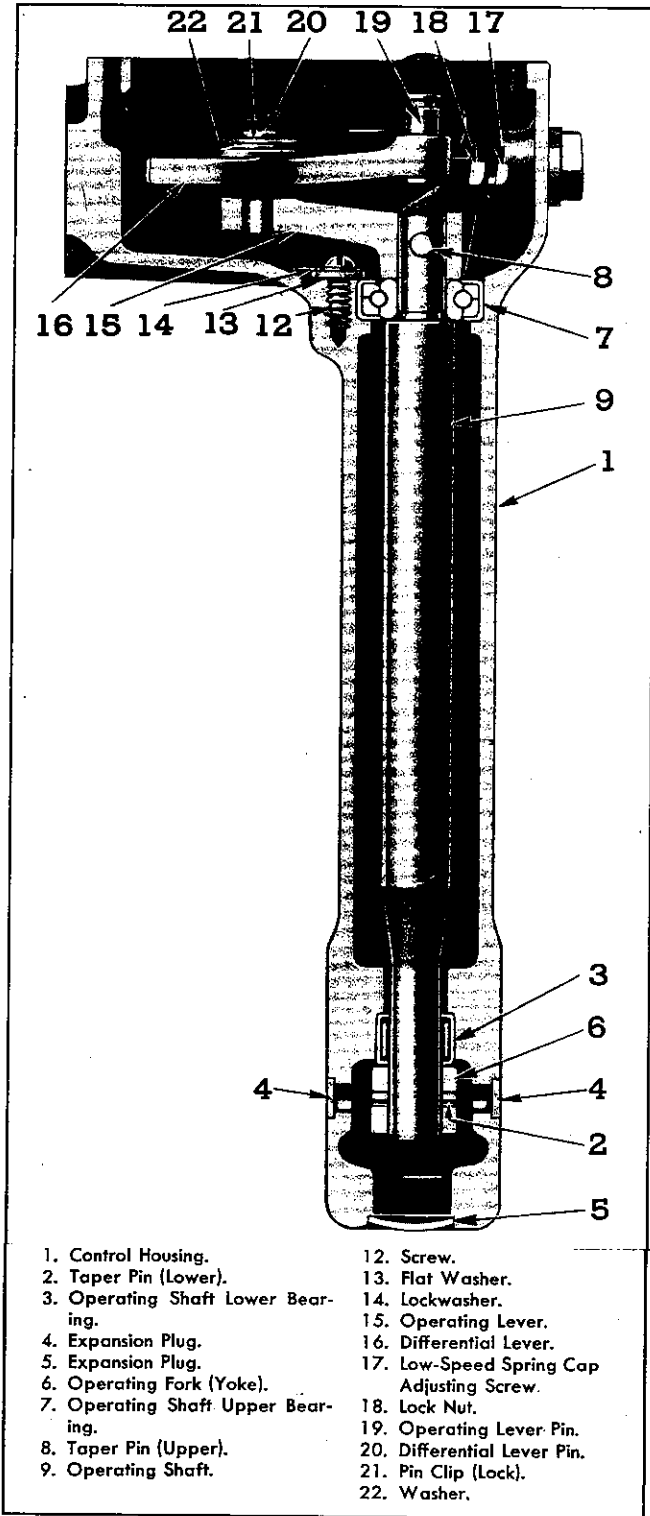

Fig. 7—Governor Control Housing Assembly, Including Control Mechanism. (Early "Handy" Model)
1. Refer to Fig. 7 and remove pin clip (21) and washer (22) from differential lever pin (20) then raise lever (16) from pin.
1. Refer to Fig. 7 and remove pin clip (21), washer (22) and differential lever (16) off lever pin (20) of the operating lever (15).
2. Remove operating shaft (9), operating lever (15) and upper ball bearing (7) as an assembly from the housing as follows:
4. Should the operating shaft, ball bearing, or operating lever require replacing, the operating lever (15) must be removed by driving taper pin (8) from hub of operating lever, using small punch and hammer, and then lifting lever and tapping ball bearing from shaft (See Fig. 7.)
4. Revolve shaft or fork to align holes and lock fork to shaft with taper pin (3). Lock upper ball bearing (8) from endwise motion with screw (5), plain washer (6), and lock-washer. Replace the two expansion plugs (4) at lower end of control housing.
5. Refer to Fig. 7 and position the differential lever (16) so slotted end points away from ball bearing at upper end of control shaft, then put lever over pivot pin in operating lever, and lock with plain washer (22) and pin clip (21).